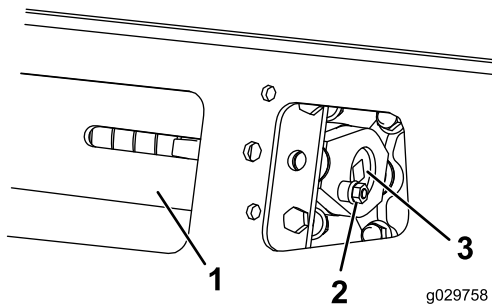

Figure 57
3. Remove the locking bolt and nut (Figure 57).
5. Align the closest notch in the tension screw to the locking-bolt hole and secure the screw with the locking bolt and nut (Figure 57).
4. Remove the locking bolt and nut (Figure 57).
5. Using a 1/2-inch drive ratchet, release the drive tension by turning the tensioning screw clockwise (Figure 57 and Figure 58).